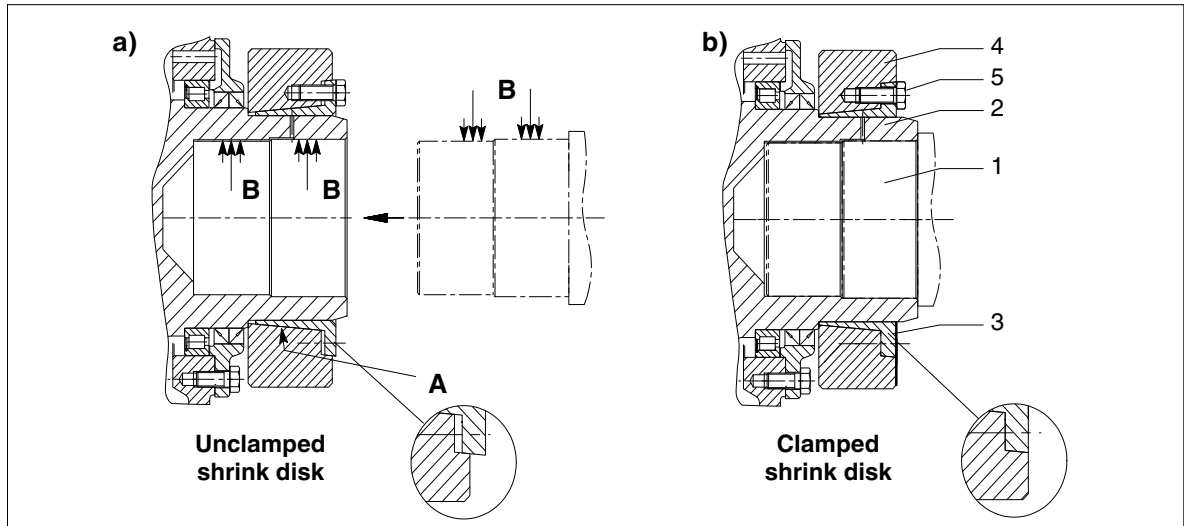

Fig. 8: Fitting the shrink disk
- The conical surfaces of the inner and outer rings (3 and 4, see Fig. 8) must be free of grease and oil.
- A thin layer of grease must be applied evenly to the conical surfaces of the inner and outer rings (3 and 4, see Fig. 8).
- Provide the tensioning bolts (5, see Fig. 8) on the contact surface and on the thread with lubricant.